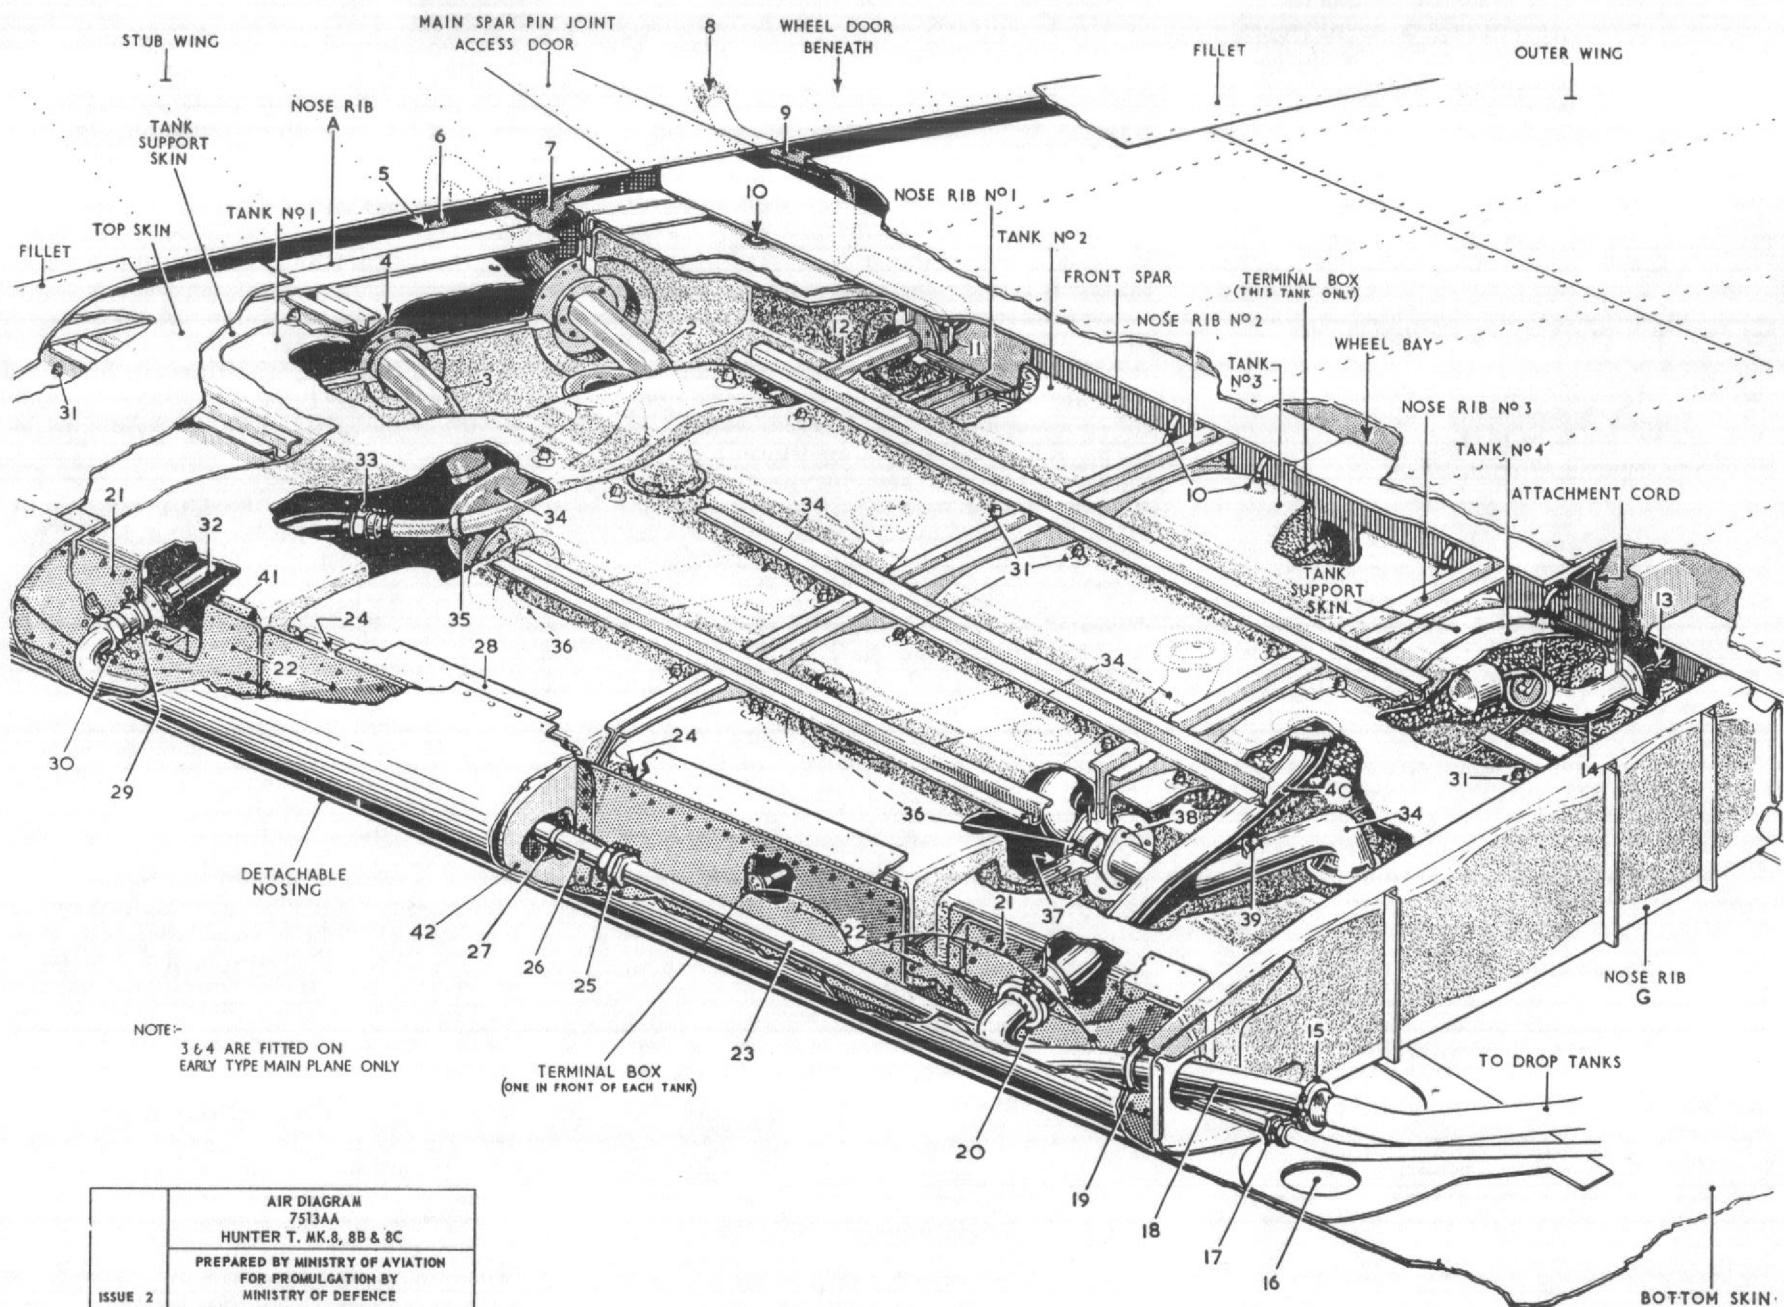

Fig. 18 Removal of wing fuel tanks
## Removal of wing fuel tanks (fig. 18)
**Tank eyelet cord attachment (10)**
71. Cut the sixteen attachment cords spaced along the rear face of the front spar, these being located adjacent to the four rear corners of each tank. The tanks may now be withdrawn forwards (*with care*) from the structure. In order to clear the packing pieces (41) at the two front corners it is necessary to concertina tank No. 1.
**Assembly of wing fuel tanks (fig. 18)**
- (1) Render the aircraft electrically safe (Sect. 5, Chap. 1).
- (2) Drain the fuel system (Sect. 2, Chap. 2).
- (3) Remove the nosing (para. 60).
- (4) Remove the transfer pipe and the air pressure pipes (para. 61, fig. 18, items 18, 23 and 26). Blank off the transfer pipe orifice with the blank (fig. 20, item 3).
- (5) Disconnect and remove the co-axial cables from the terminal boxes.
- (6) Remove the leading edge spar webs from No. 2 and 3 tanks (para. 62).
- (7) Remove the mounting plates from No. 2 and 3 tanks (para. 64) and before finally removing disconnect the electrical leads from the terminal boxes behind the mounting plates.